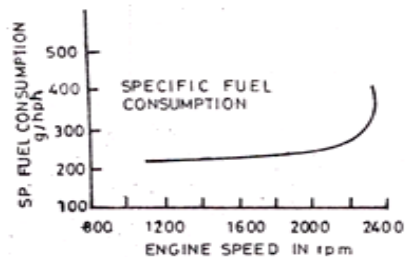

Fig. 11.2
- Equivalent crankshaft torque as a function of engine speed (Fig. 11.2)